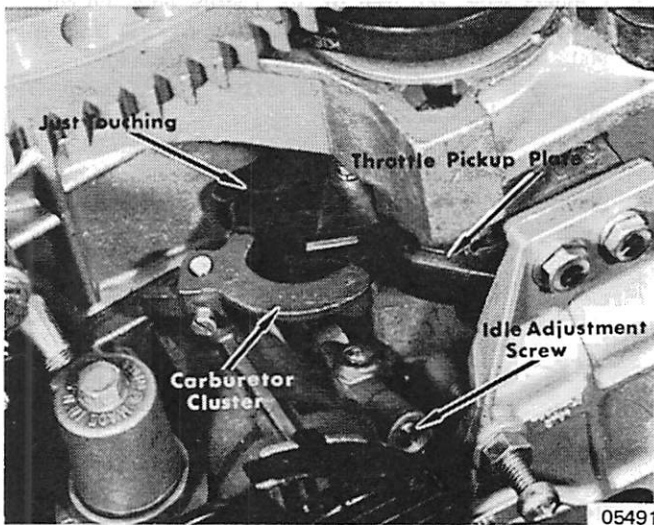
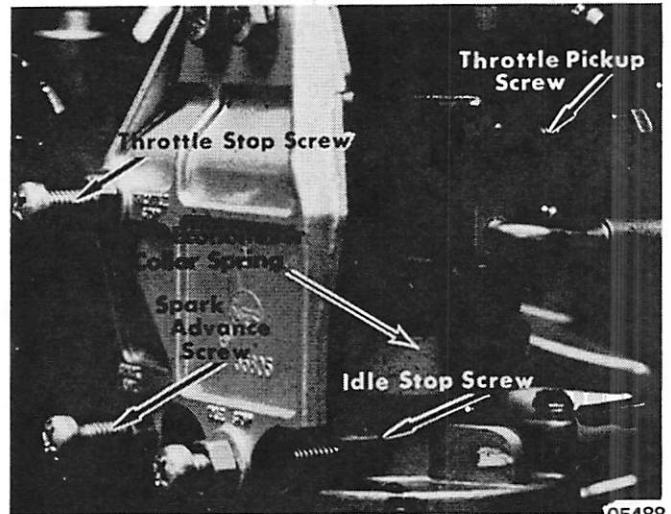

Figure 5. Secondary Pickup
Figure 6. Throttle Pickup Screw and Throttle Stop Screw
2. With distributor against spark advance screw, but not actuating Economizer collar spring, adjust throttle pickup screw on throttle actuator (Figure 6) so that it just touches secondary pickup on carburetor cluster. (Figure 5) Tighten locknut.
3. Advance to wide open throttle and adjust throttle stop screw (Figure 6) to allow full throttle shutter opening, but do not allow throttle shutters to act as a stop nor carburetor cluster to hit carburetor filter bowl.